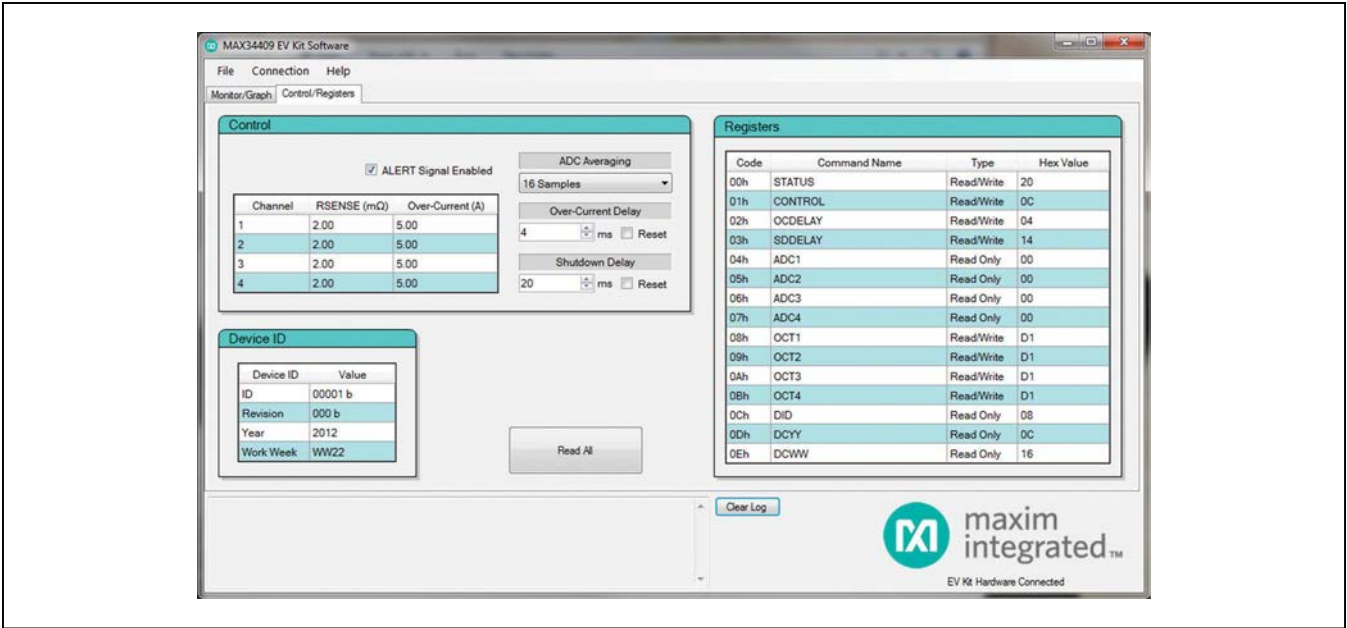

Figure 2. MAX34409 Control/Registers Tab
The **File** menu item contains save, load, and exit options. To save the settings in the **Control** group box on the **Control/Registers** tab (Figure 2), click **Save Project As** or **Save Project**. This saves the settings to an XML file. **Load Project** updates the GUI with the XML file and writes the values to the device.
ADC values read from ADC1–ADC4 (04h to 07h) that are converted to amps using the **RSENSE** value in the **Control** table shown in Figure 2. The **OC** column displays the overcurrent status bit in STATUS (00h). The **Peak** and **Average** columns track the maximum and average of the **Polled** value for each channel. These values can be reset by clicking on the **Reset Peak and Average** button. The **ENA Pin** and **SHTDN Pin** state are read from STATUS (00h). All values on the tab are read when the tab is selected or when the **Read** button is clicked. The **OC** status bits are cleared after every read. Check the **Auto Poll** checkbox to continuously read every 30ms.
The **Control/Registers** tab sheet (Figure 2) displays all the SMBus commands and their current values. In the **Control** group box table, the **RSENSE (mΩ)** column is the value of the resistor (R3X–R6X) between IN+ and IN- signals. The **Over-Current (A)** column displays the overcurrent threshold (08h to 0Bh) converted to amps using the **RSENSE** value. The **ALERT Signal Enabled** checkbox and the **ADC Averaging** drop-down list read/write to bits in Control (01h). The **Over-Current Delay** and **Shutdown Delay** edit boxes set the delays stored in registers 02h and 03h, respectively. The **Reset** checkboxes set the reset bit in the Overcurrent Delay (02h) or Shutdown Delay (03h) register.